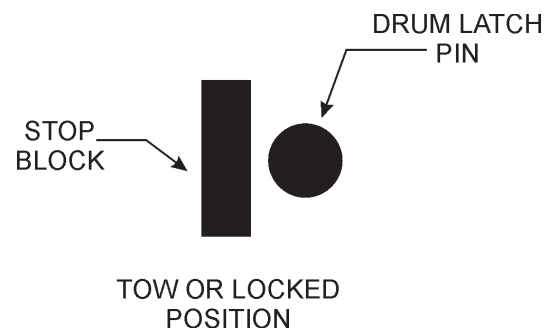

Figure 3. Drum Latch Pin (Tow or Locked Position)
**DO NOT** tow the mixer unless the mixing drum is **completely empty**. **ALWAYS** make sure the drum latch pin is fully engaged to the *right* (Figure 3) of the drum stop block. This will keep the drum from rotating.